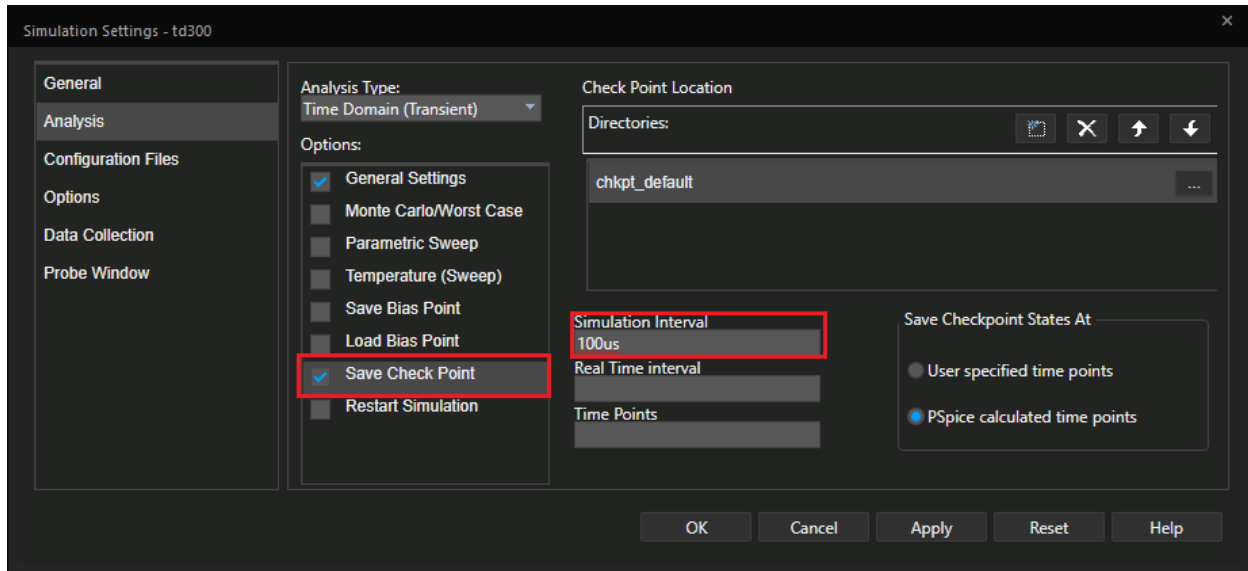

Figure 2-4: Check Point Settings
3. In the same tab, check the **Save Check Point** checkbox and set **Simulation Interval** to **100us**, as shown in Figure 2-4.